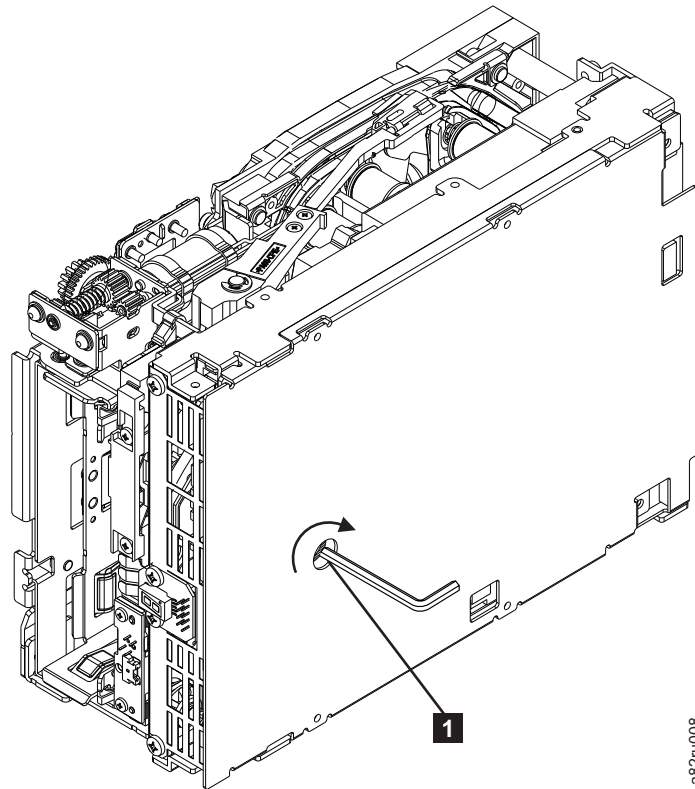

Figure 201. The hex wrench rewinds tape into cartridge
3. From the bottom of the drive, locate the access hole (**1** in Figure 201).
Note: Be sure to keep tension on the tape as the LBA is drawn into the cartridge by using a hex wrench as shown in Figure 201 on page 272.